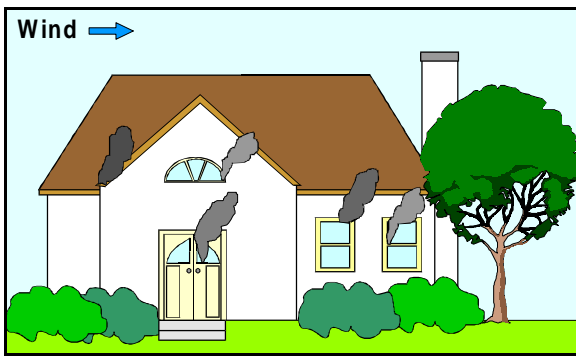

Fig 14.8 The Effect of Wind on Where to Ventilate
- weather and wind direction; (See Fig 14.8)